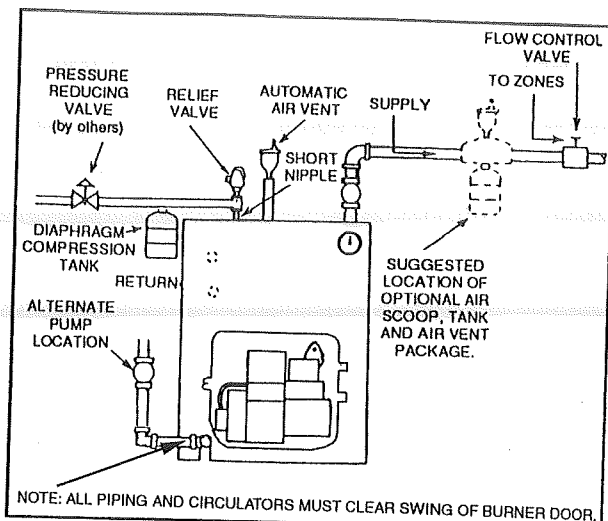
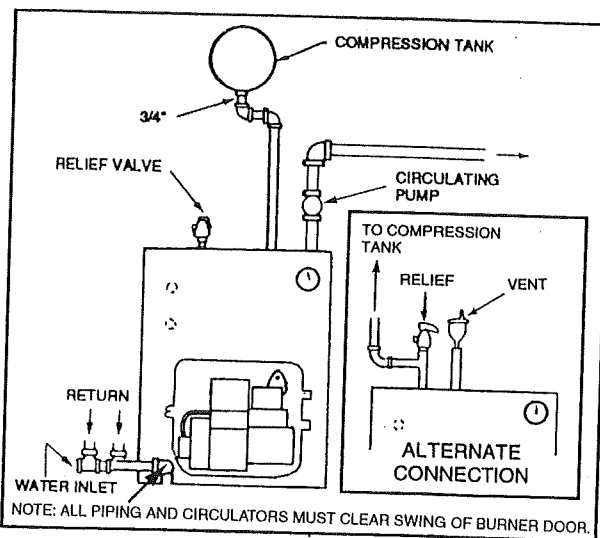

Figure 6. Air Eliminating System
Figure 7. Air Collecting System
- B. A **FLOW CONTROL VALVE** (See figure 6) will prevent gravity circulation and usually is required when tankless heater is installed.
- A. **DIAPHRAGM-TYPE COMPRESSION TANKS** are used to control system pressure in an **AIR ELIMINATING SYSTEM**: an automatic air vent is used to **REMOVE** air from the system water. See figure 6. If system pressure needs further control, add an additional tank or install a larger capacity tank. The automatic air vent should be installed in the top of the boiler, as in figure 6.
- B. **CONVENTIONAL COMPRESSION TANKS** (non-diaphragm type) are used to control system pressure in an **AIR COLLECTING SYSTEM**. Within the system, after initial start-up and venting, air is collected in the tank and acts in contact with the water to control pressure. Air is not vented from this system. If system pressure needs further control, add another tank in parallel with the original tank or install a large capacity tank. Locate the tank at the inlet end of the pump near the boiler. (See figure 7)
D. **PUMP LOCATION** - Locating low-head pump(s) on return to boiler is only acceptable in residences of one or two stories. (See figure 6) The pump location shown in figure 7 is required in large, multi-story building installations, especially when high-head pumps are used and is also recommended for all applications.
E. A conventional compression tank may be connected to the 3/4" tapping as shown in figure 7.
IMPORTANT: Hot water heating systems containing high water volume, such as would occur with cast-iron radiation, require special care with air elimination. The circulator pump should be located on the boiler supply pipe and the expansion tank and air scoop should be located near the pump suction. (See Figure 6, Alternate Pump Location.)